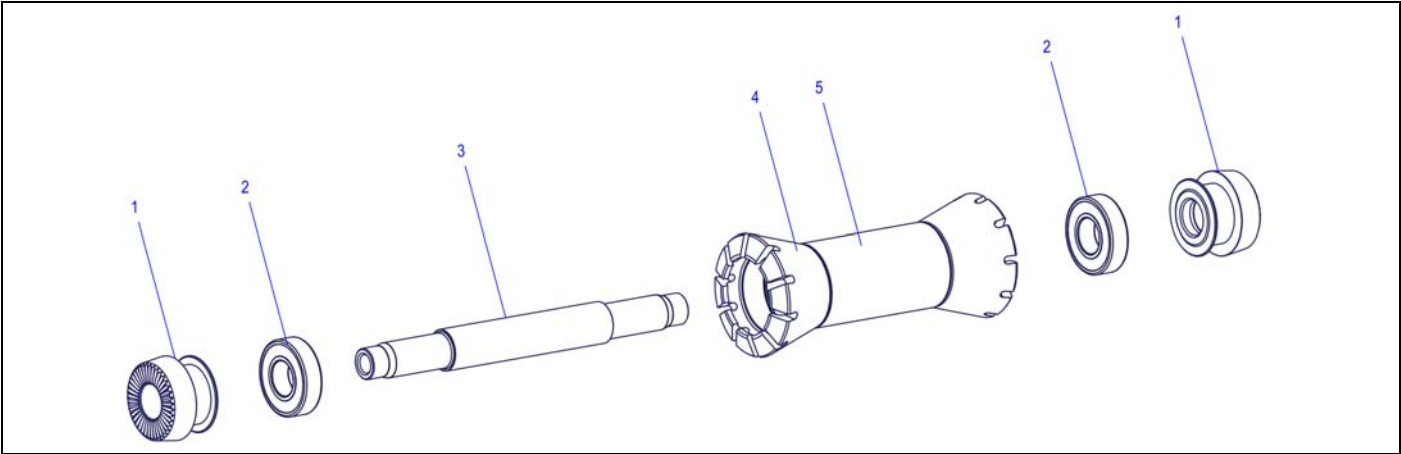

Figure 3-2: Overview: front wheel with inserted adapters
1. Remove the adapters (fig.3-2/1) by hand.
1. Hit the axle (fig.3-2/3) with a nylon hammer and tap out the first bearing (fig.3-2/2).
2. Take the bearing (fig.3-2/2) from the axle (fig.3-2/3).
3. Slide the axle (fig.3-2/3) through the second bearing (fig.3-2/2).
1. Grease the bearing seats and the inner surface of the hub shell (fig.3-2/4).
2. Slide the axle (fig.3-2/3) into the installation tool.
3. Slide the hub shell (fig.3-2/4) onto the installation tool and the axle (fig.3-2/3).
5. Put the second installation tool onto the bearing (fig.3-2/2) and tap in the bearing using a nylon hammer.
1. Grease the bearings and the inner surface of both adapters (fig.3-2/1).
2. Put the adapters (fig.3-2/1) onto the hub by hand.